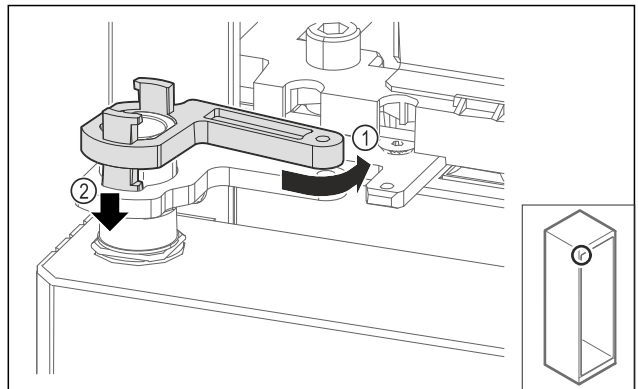

Fig. 59
- Turn the swap bearing block lock back slightly Fig. 59 (1), press it down Fig. 59 (2) and lock it at the hinge bracket.